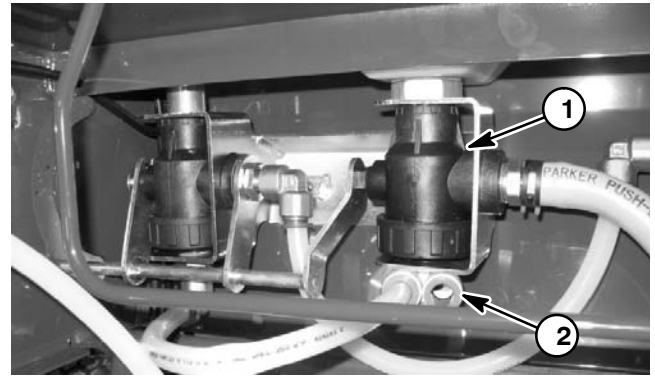

Figure 13
6. Remove flush tank outlet tube from elbow fitting on bottom of ball valve (Fig. 13 and 14) (see Quick Disconnect Fitting in the General Information section).
2. Position flush tank to machine. Connect flush valve outlet tube to elbow fitting on bottom of ball valve (Fig. 13 and 14) (see Quick Disconnect Fitting in the General Information section).